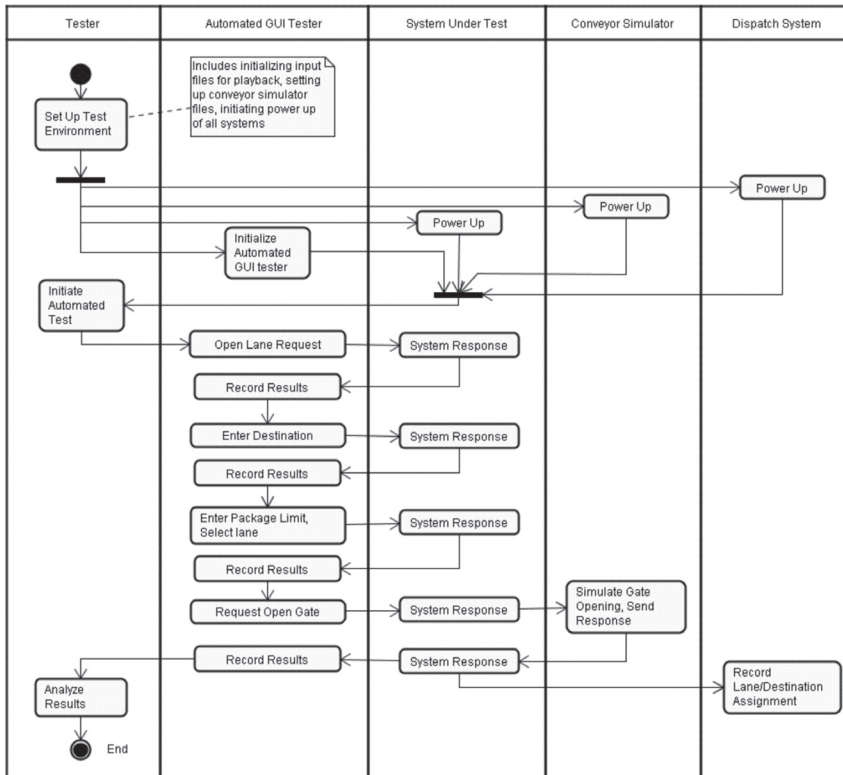

Figure 16-2 Example of Activity Diagram for 1 Open a Lane Basic Flow Positive Test Test Case
- After reviewing the entire Test Case created so far I identify activities and create the Activity Diagram for the Test Case shown in figure 16-2 below.